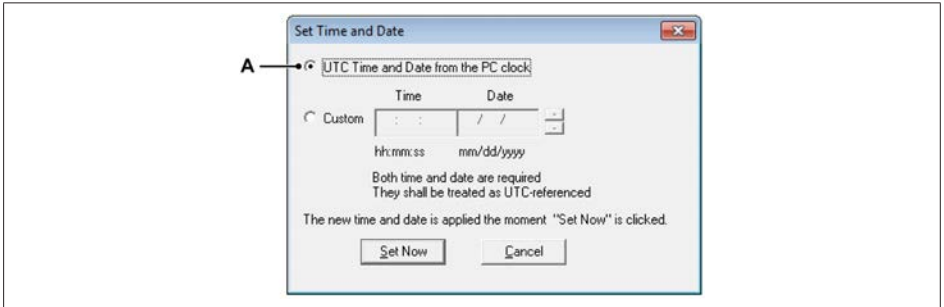

Fig. D.28 UTC Time and Date from the PC clock
11. Now the **Set Time and Date** window is shown (see Fig. D.28).
If the PC's clock is set correctly select the **UTC Time and Date from the PC clock** option button (see Fig. D.28).